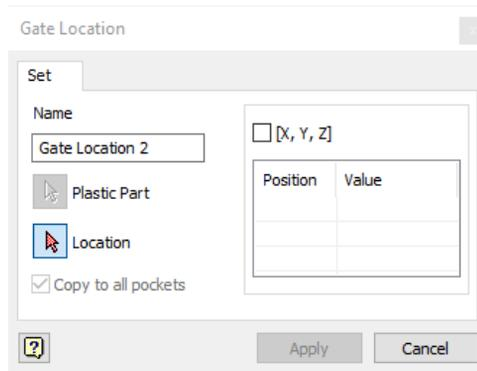

Figure 19-47 The *Gate Location* dialog box
2. Choose the **Gate Location** tool from the **Plastic Part** panel in the contextual tab; the **Gate Location** dialog box is displayed, as shown in Figure 19-47.